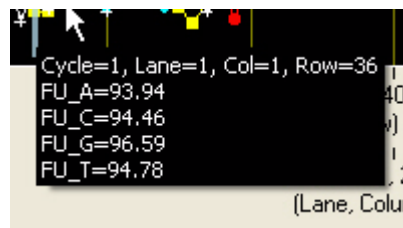

Figure 107 Plot value line
- ▶ If the mouse button is held down at particular tile of interest, the values for all parameters shown on the overview tab of interest will be displayed in a transparent label next to the vertical Y-value line as show below (Figure 107). Logical coordinates of the tile of interest on the flow cell are also displayed.